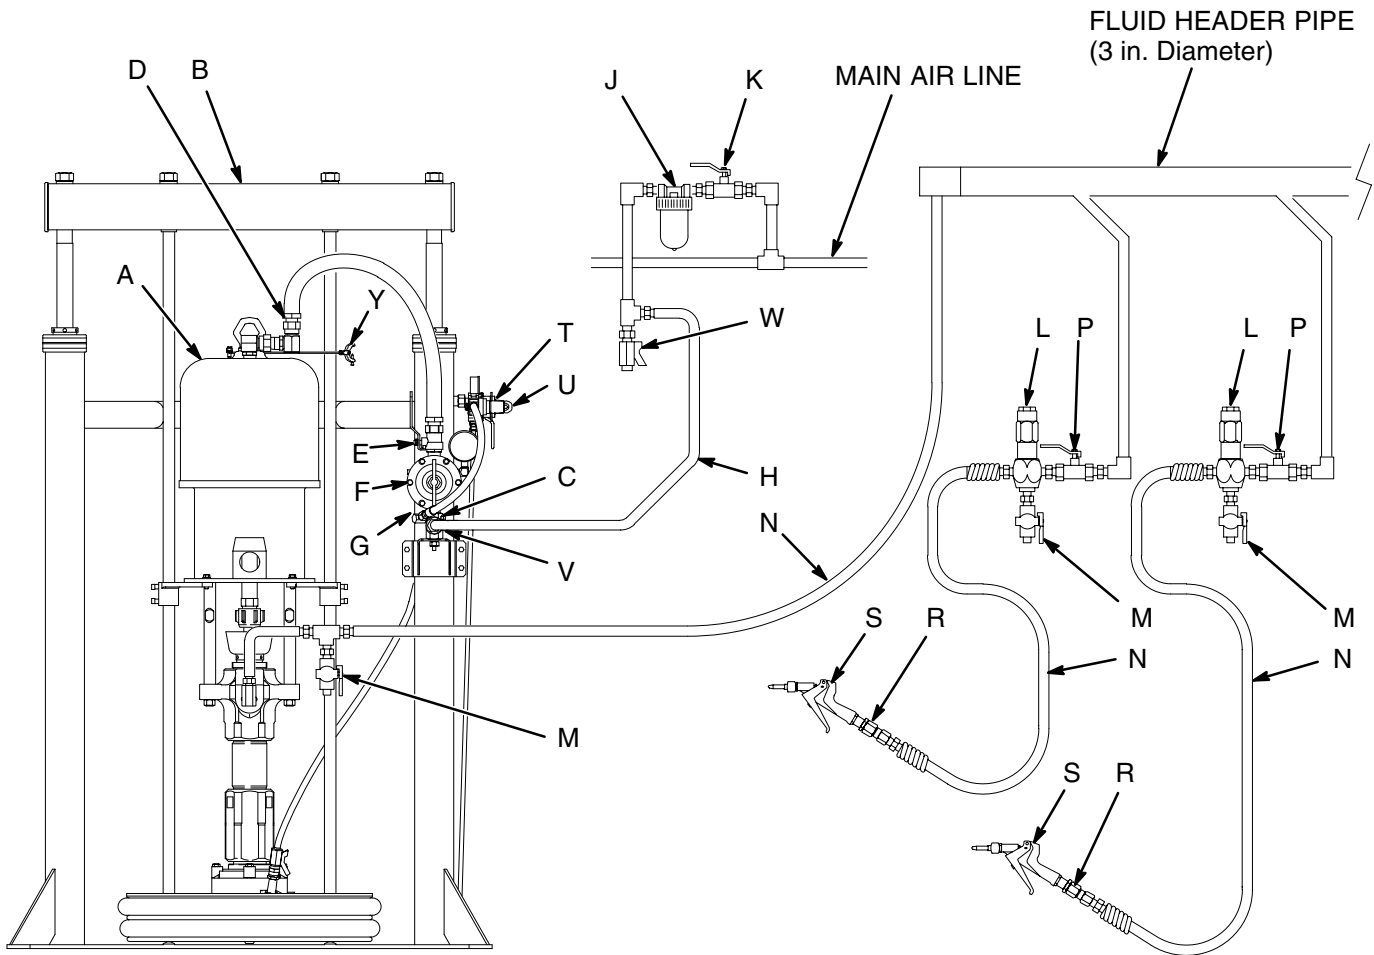

Fig. 3
The Typical Installations shown in Figs. 3 and 4 are only guides for selecting and installing system components and accessories. Contact your Graco distributor for assistance in designing a system to suit your particular needs.
Mount the pump (A) to suit the type of installation planned. Fig. 3 on page 8 illustrates a ram-mounted pump in a multi-gun header system. Pump dimensions and the mounting hole layout are shown on page 49.
Install the following accessories in the order shown in Fig. 3, using adapters as necessary:
Install the following accessories in the positions shown in Figs. 3 and 4, using adapters as necessary:
- Install a **fluid shutoff valve (P)** at each gun/valve drop, to isolate the gun/valve and fluid accessories for servicing.
- Install a **fluid drain valve (M)** near the pump fluid outlet, and at each gun/valve station. The drain valves are required in your system to relieve fluid pressure in the displacement pump, hose and gun/valve (see the **WARNING** at left). Drain valves at the gun/valve stations may be mounted in the base of a **fluid regulator (L)**, using an adapter.
- **A fluid regulator (L)** controls fluid pressure to the gun/valve, and dampens pressure surges.
- **A gun or dispense valve (S)** dispenses the fluid. The gun shown in Fig. 3 is a high pressure dispensing gun for highly viscous fluids.
- **A gun/valve swivel (R)** allows freer gun/valve movement.